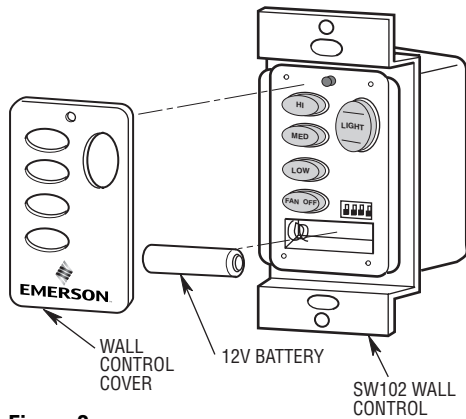

Figure 2
- 1. Install the 12V battery (supplied) into the wall control (Figure 2).
- 2. The SW102 wall control is supplied with a white, ivory or almond color cover. Choose the style that best suits your needs and snap the cover onto the wall control (Figure 2).